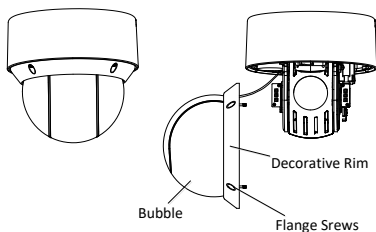

Figure 2-12 Remove the Bubble and the Decorative Rim
2. Loosen four flange screws with a screwdriver. Remove the bubble and the decorative rim as shown in Figure 2-12.